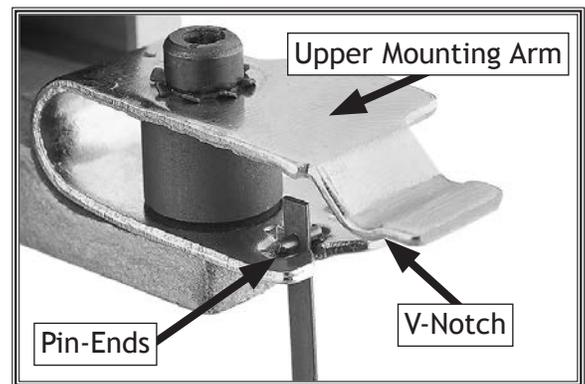

Figure 28. Upper blade mounting arm.
5. Push down on upper blade mounting arm shown in Figure 28, slide blade out of upper and lower mounting arms, and then remove blade.
8. Push upper blade mounting arm down, then slide upper pin-ends onto V-notch of the blade holder, as shown in Figure 28.